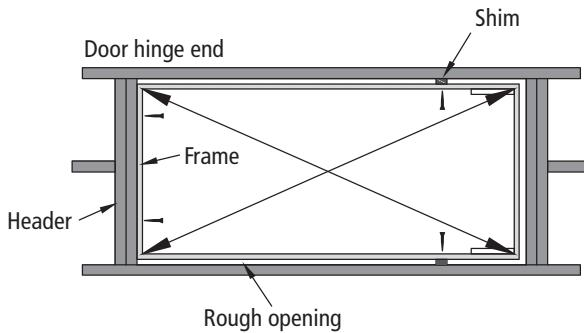

FIGURE 7
F. Make sure frame on door hinge side of ladder is pushed up against header and is centered side to side in rough opening. Temporarily secure frame to header using two $2\frac{1}{2}$ " deck screws (Figure 7). Do not use pre-drilled holes for deck screws. Pre-drilled holes are used in Step 2.
G. Carefully open attic ladder door but do not unfold the climbing section until indicated in step 3. Center and square the opposite side of attic ladder frame in the rough opening using shims. Ensure ladder frame is square by measuring diagonals of the frame within $\frac{1}{8}$ " (Figure 7).
H. Secure sides of ladder frame to ceiling joists with $2\frac{1}{2}$ " deck screws at shim locations (Figure 7). Do not use pre-drilled holes for deck screws. Pre-drilled holes are used in Step 2.